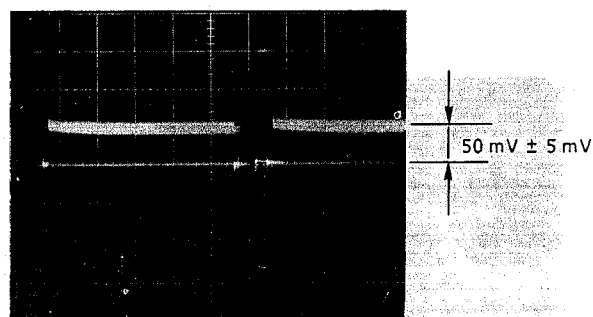

Fig. 4-5
- Adjust data by **ARROW** keys so that signal level becomes  $50\text{ mV} \pm 5\text{ mV}$  as shown in Fig. 4-5.